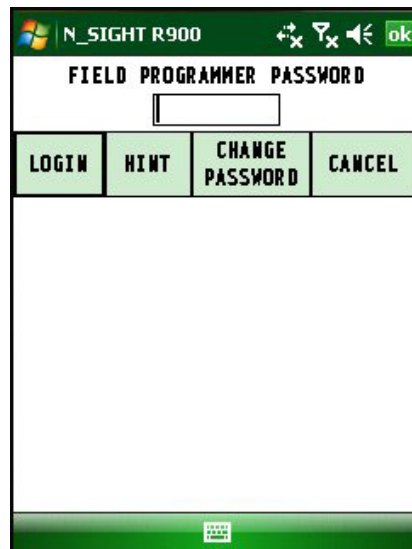

Figure 9.27 Field Programmer Menu
- 1 On the **Field Programmer** Menu, touch or click **Configure ProRead**. See Figure 9.27.